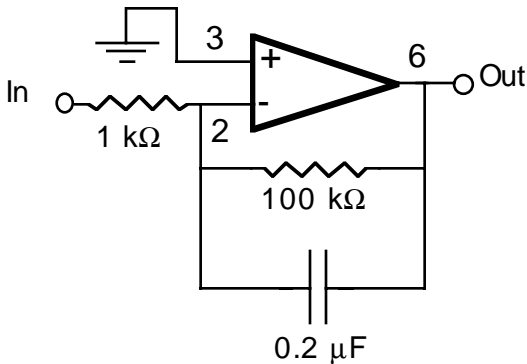

Figure 6
6) Integrator (Fig. 6). In this circuit the capacitor and the resistor are interchanged and the signal is integrated instead of differentiated. In addition, a 100 k $\Omega$  resistor has been added to prevent any input offset voltage that might be present from driving the output of the op-amp to one of its extreme limits. Apply the same signal as in part (1) to the input. *What is the signal at*